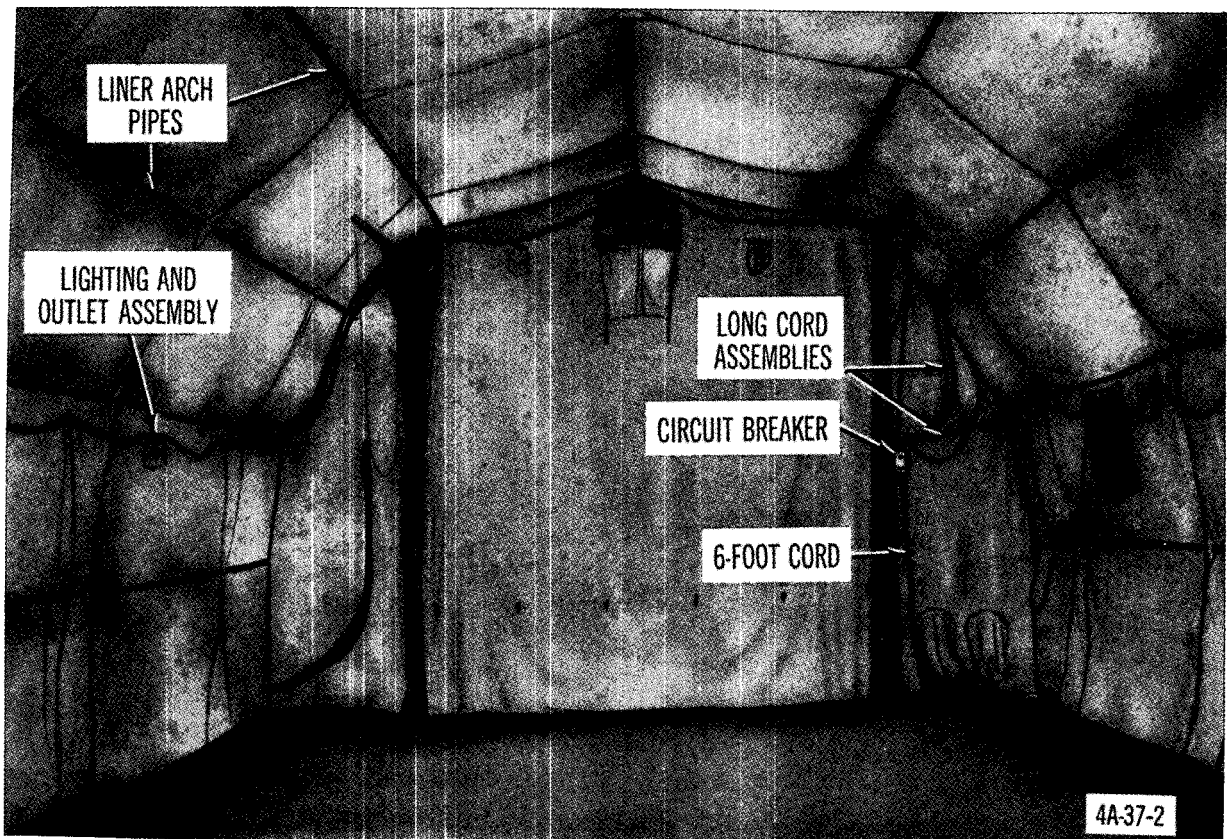

Figure 58. Installing wiring harness assembly in tent, frame-type, maintenance, medium light metal.
- (9) *Installing wiring harness assembly (fig. 58).*